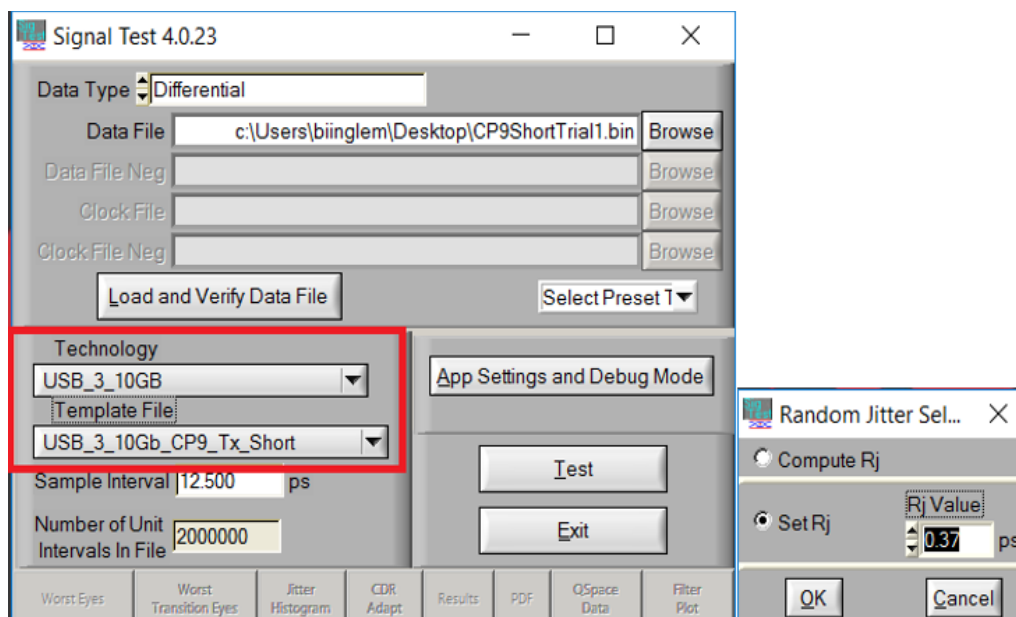

Figure 76 SigTest tool settings for measuring Eye Width and Extrapolated Eye Height
- 11 Load the waveform file. Select the options for Technology and Template File as shown in Figure 76.